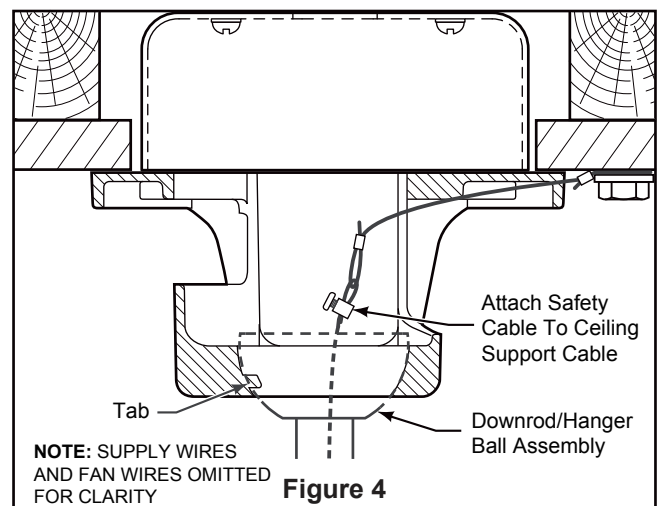

Figure 4
4. Slide downrod into the downrod support on top of the motor housing assembly. Install the clevis pin by aligning the holes in the downrod support with holes in the downrod. Secure clevis pin with hairpin clip. Install and tighten the two previously removed set screws with nuts in the downrod support. (Figure 4)
4. Carefully lift the fan and seat the downrod/hanger ball assembly onto the hanger bracket that was just attached to the outlet box. Be sure the groove in the ball is lined up with tab on the hanger bracket. (Figure 4)
5. Attach the safety cable to ceiling support cable. Slide cable clamp and washer onto safety cable (from fan). Place the end of cable through the loop of ceiling support cable. Pull as much cable through loop as possible. Feed end of cable into clamp hole and firmly tighten screw. (Figure 4)
3. Connect wires using connectors as shown in Figure 4.
4. To make fan operational, install two 3V batteries (included) in hand-held remote transmitter, with fan power off. Then, follow the remote code setting process. If not used for long periods of time, remove battery to prevent damage to transmitter. Store the remote away from excessive heat or humidity. (Figure 4)